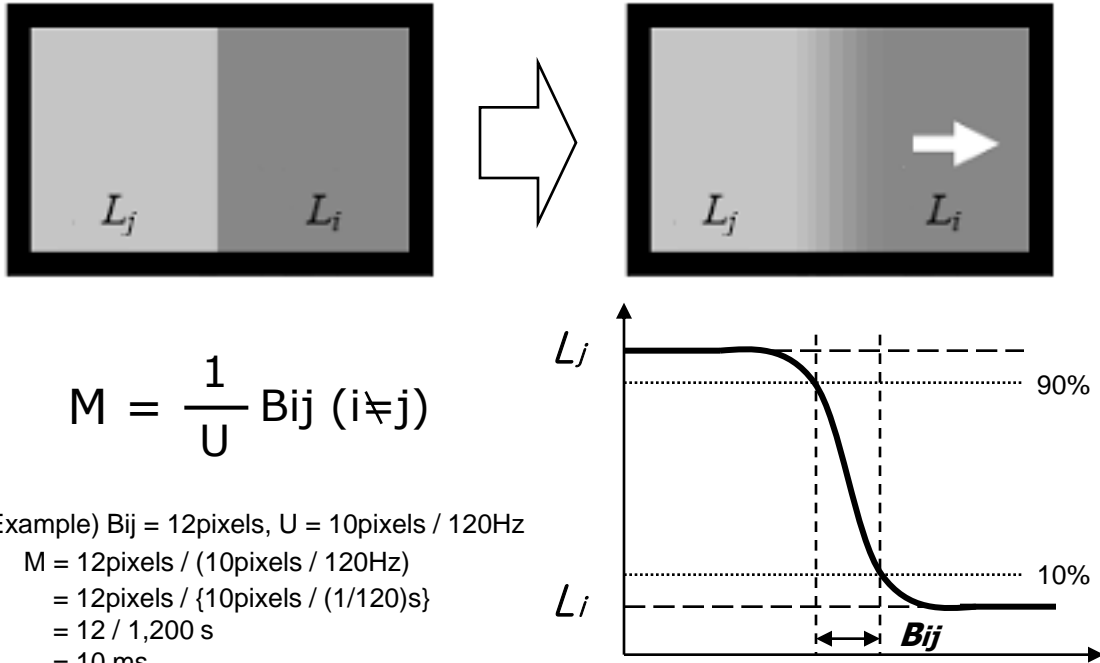

FIG. 4 MPRT
5. MPRT is defined as 10% to 90% blur-edge width B_{ij} (pixels) and scroll speed U (pixels/frame)at the moving picture. For more information, see FIG 4